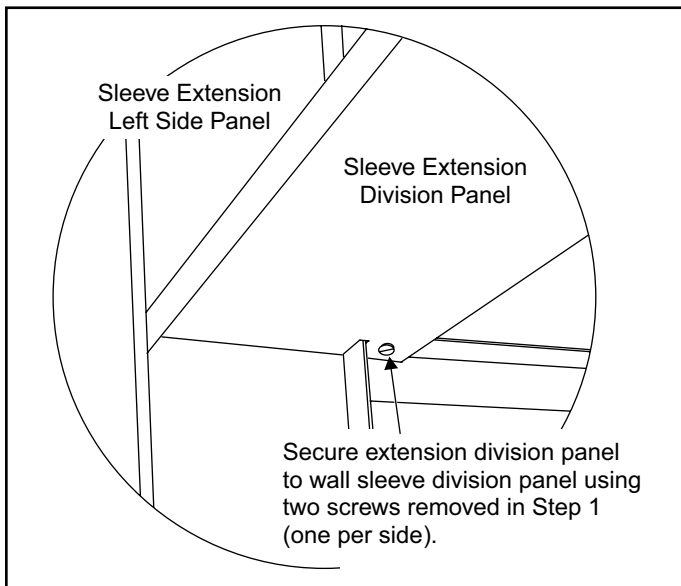

Figure 7. Securing Extension Division Panel
- Using two screws removed in Step 1, attach the sleeve extension division panel to the wall sleeve division panel (Figure 7).